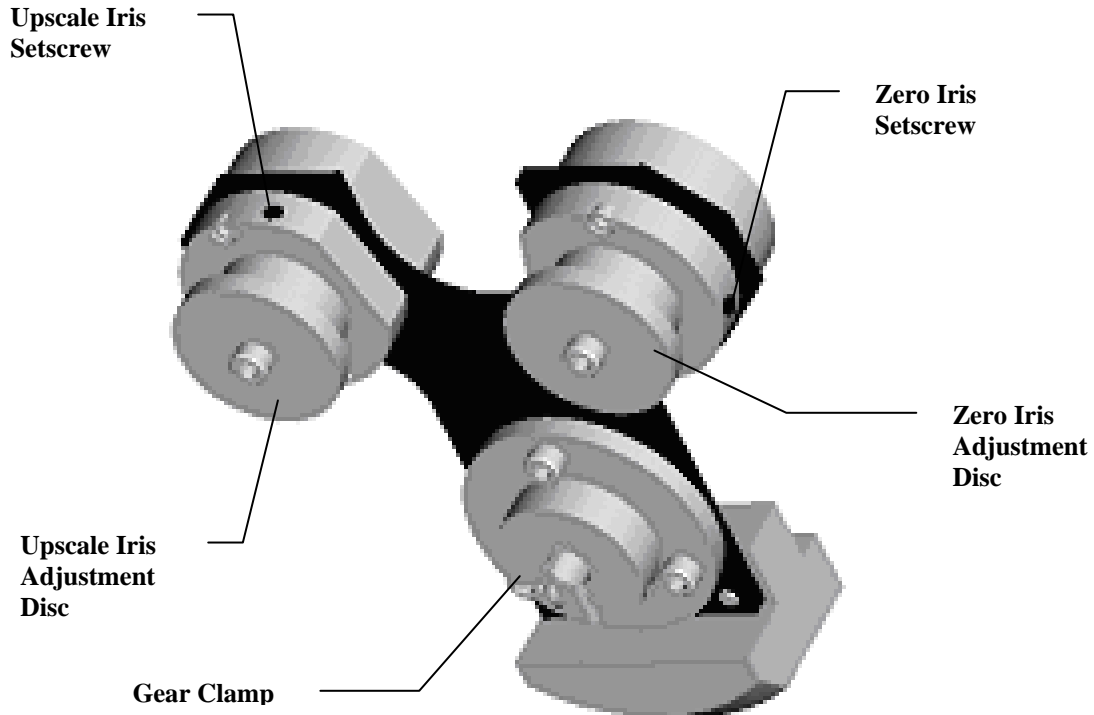

Figure 9-4
While the Optical Head hinged section is open, the simulated zero and upscale windows of the Calibration Assembly may be cleaned. The Cal Mechanism Arm Assembly can be removed by loosening the gear clamp and pulling it off the shaft. See Figure 9-4. **Care should be taken not to damage the guide pin.** Using the standard cloth and solution, clean both windows. Cotton cleaning swabs may be employed to clean hard to reach areas, so long as the lint-free cloth is used to remove any cotton fibers left by the swab. Return the Cal Mechanism Arm to the shaft making sure that the guide pin slides fully into the slot on the arm. Put the gear clamp back on and tighten.
- a) Loosen the Allen head setscrew that locks the Zero Iris in place. See Figure 9-4.
- c) Slowly rotate the disc on the rear of the Cal Zero Iris to achieve as near as possible to 0% opacity ($\pm 1\%$ on U0). See Figure 9-4
- d) Carefully lock down the Iris setscrew. See Figure 9-4.
- i) Loosen the Allen head setscrew that locks the Upscale Iris in place. See Figure 9-4.
- iii) Slowly rotate the disc on the rear of the Cal Upscale Iris to achieve as near as possible to target value (location C1). See Figure 9-4.
- iv) When the proper value is obtained, carefully lock down the Upscale Iris setscrew. See Figure 9-4.